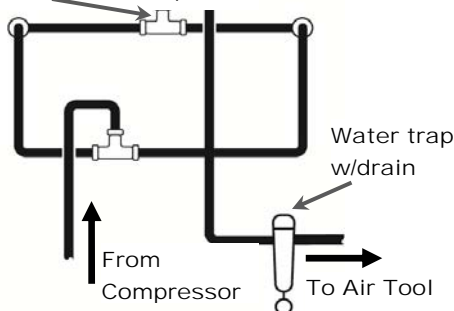

Figure 5: Closed Loop Installation
1. Install piping as shown in Figure 4. Refer to Figure 5 for recommended, closed loop installation.